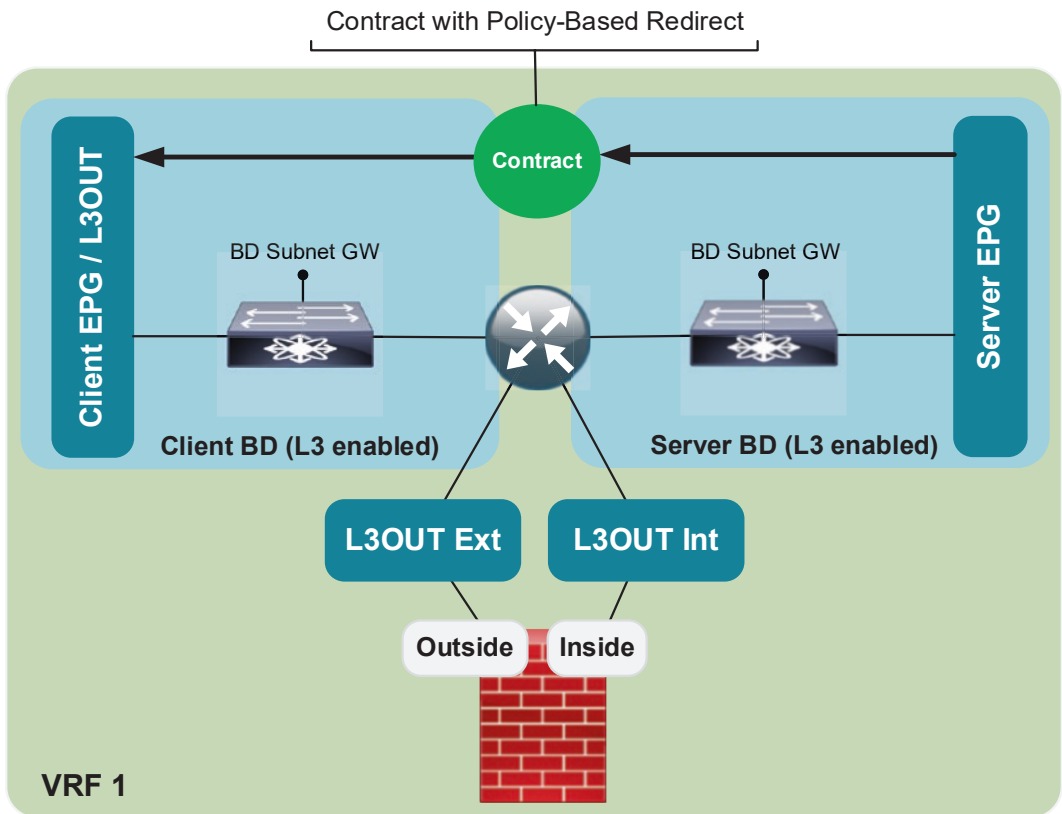

Figure 8-10. Routed policy-based redirect to two-arm L4-L7 node
- b. **Policy-Based Redirect with L3OUTs:** Since ACI version 5.2 there is also an option to utilize dynamic routing between ACI and the L4-L7 device by configuring two L3OUTs instead of standard bridge domains (see Figure 8-10).